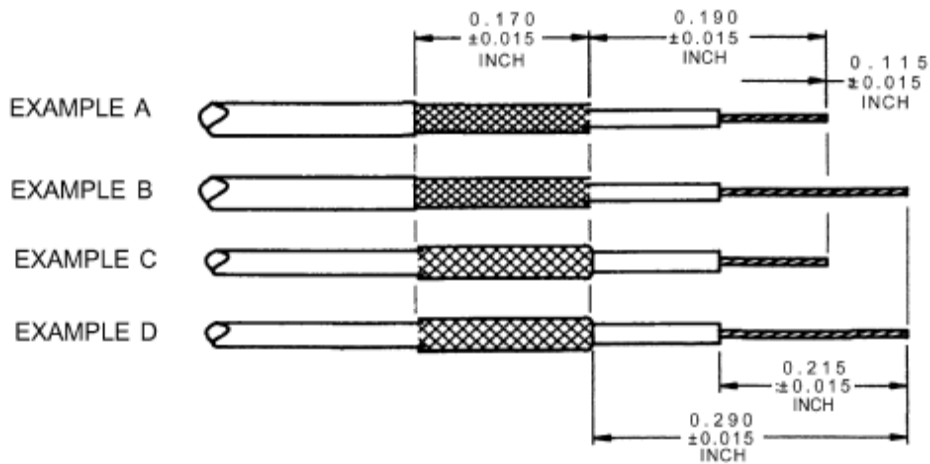
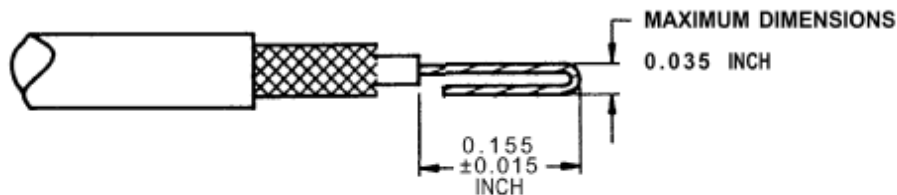

Figure 5-3. Coaxial Cable Stripping Dimensions (Refer to Table 5-1)
Figure 5-4. Small-Diameter Center Conductor Folded Back
2. Prepare the coaxial cable to the dimensions shown in the applicable example in Figure 5-3, based on the following criteria:
- NOTE: If the braid fold-back method is used, fold braid back over cable jacket and trim to the dimensions shown in Figure 5-3.
| Coaxial Cable Stripping Method | Coaxial Cable Center Conductor Size | Stripping Example in Figure 5-3 |
7. If the center conductor strip length is 0.215 inch as shown in examples B and D of Figure 5-3, fold the center conductor back on itself as shown in Figure 5-4.